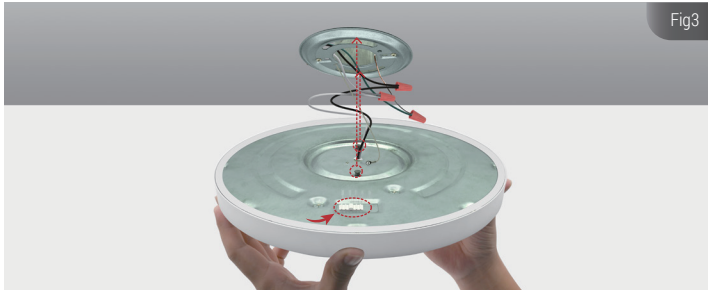

Fig3
3.Connect supply wires to wires on fixture/bracket with wire nuts. Attach white to white, black to black, and copper wire to green wire as grounding connection, select lamp color desired with the CCT switch, see Fig3.